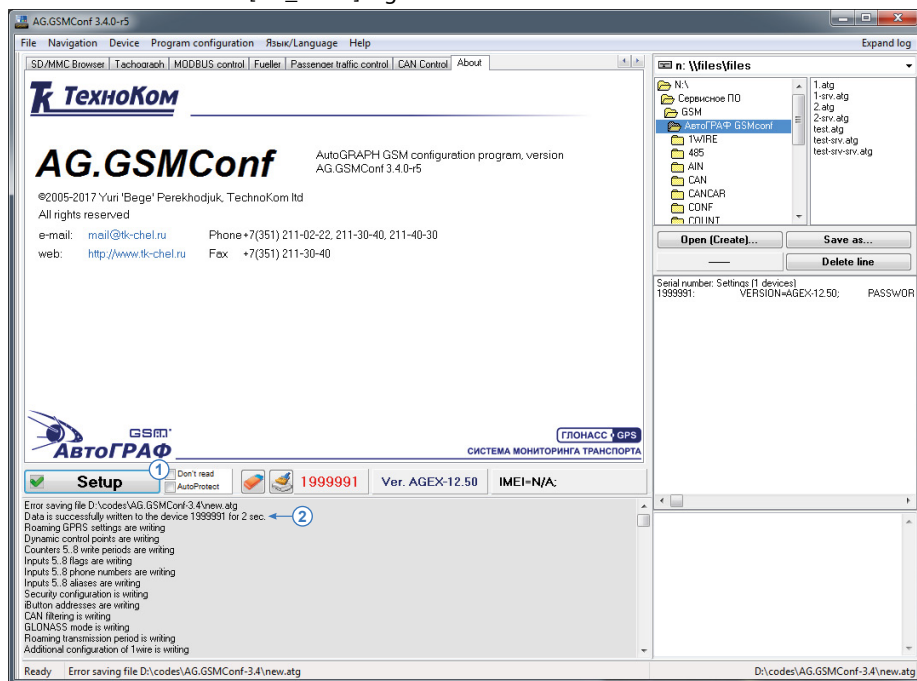

Fig.88. Applying the settings.
The "Setup" button saves the settings into the connected device. When settings are successfully applied to the device you will see  icon and a message on successfully saved settings in a status window (Fig.88, item 2).
To connect to the server using an account of AutoGRAPH server user, enter a login in the “User name” field and a password in the “User password” field (**Fig.88**).